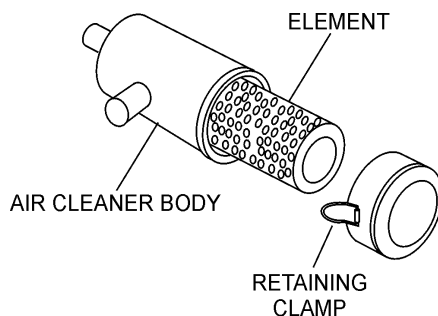

Figure 31. Air Cleaner
1. Release the air cleaner retaining clamps (Figure 31) and remove the air cleaner element.